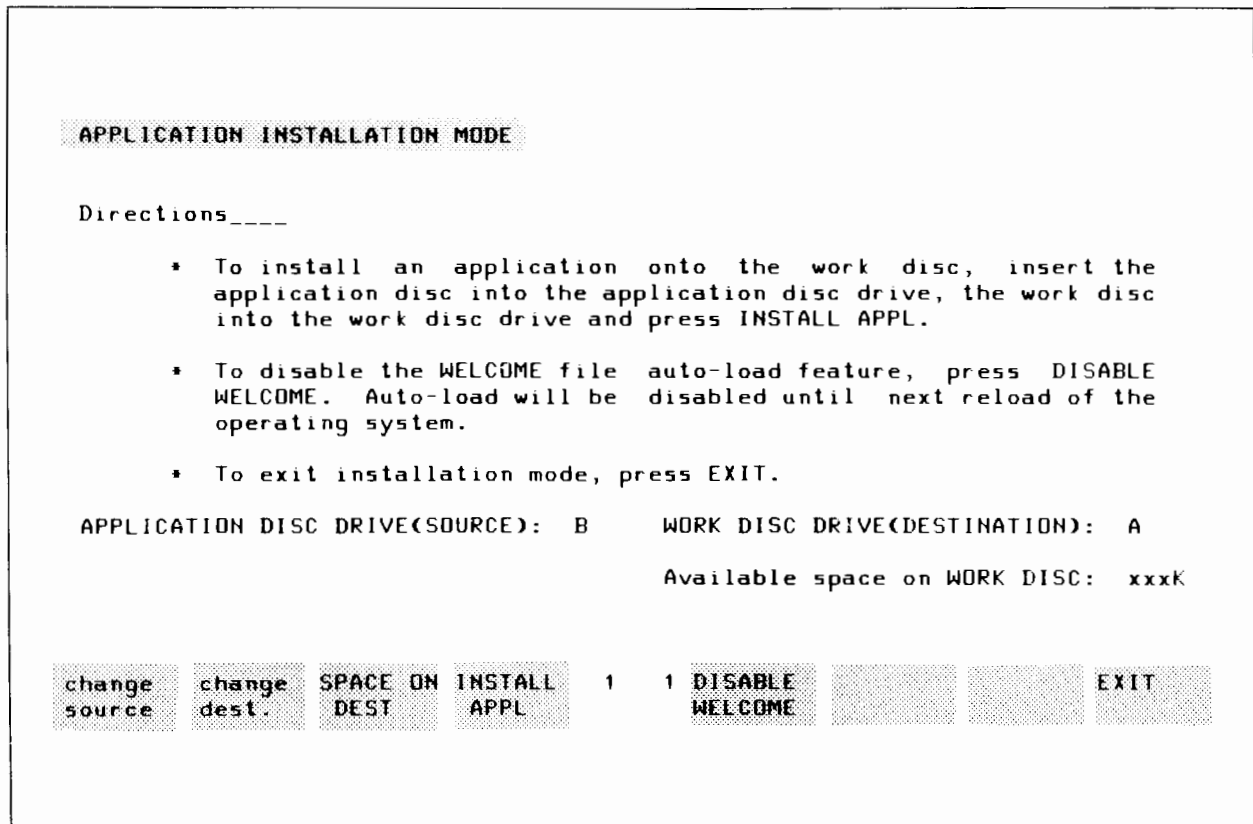

Figure 2-5. Application Installation Display
1. To place the WELCOME program into application installation mode, press the [CTRL], [SHIFT] and [E] keys simultaneously. The screen display appears as shown in Figure 2-5. (For a description of each of the function keys, refer to Table 2-1.)
8. When installation is complete, the screen will once again display the Application Installation Menu (see Figure 2-5). You may now install additional applications on the work disc in disc drive A (the fixed disc drive), if you desire. Simply repeat steps #5, #6 and #7 above for each application package being installed.